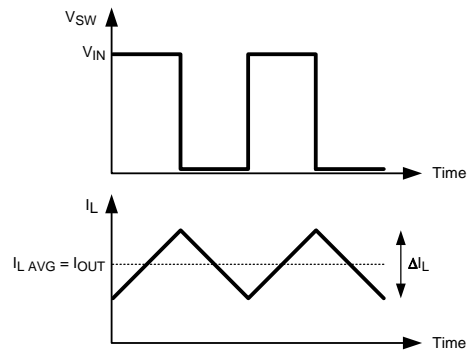

Figure 32. Switch and Inductor Current Waveforms
The inductor (L) used in the application will influence the ripple current and the efficiency of the system. The first selection criteria is to define a ripple current, ΔI_L . In a buck converter, it is typically selected to run between 20% to 30% of the maximum output current. Figure 32 shows the ripple current in a standard buck converter operating in continuous conduction mode. Larger ripple current will result in a smaller inductance value, which will lead to a lower series resistance in the inductor, and improved efficiency. However, larger ripple current will also cause the device to operate in discontinuous conduction mode at a higher average output current.